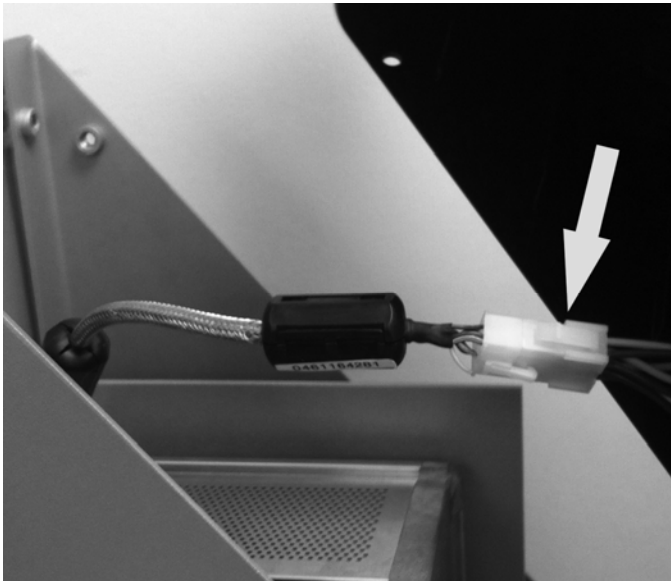
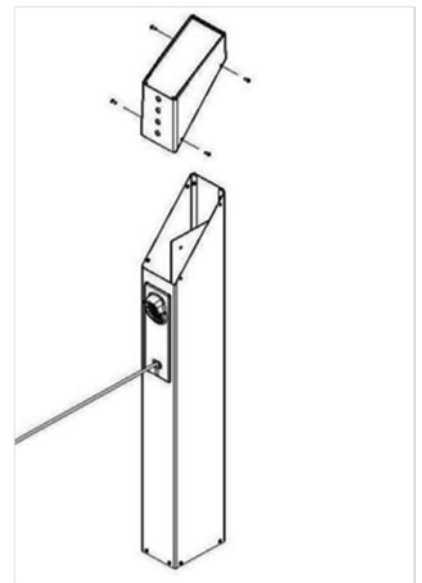

Figure 4 - LED cable harness connector
Figure 3 – Top Cover Removed
4. Remove 4 screws that attach the top cover to the charging base (use security bit provided). Retain screws for later installation. Gently lift the top cover ~6 inches. (See Figure 3) Disconnect LED cable harness connector from charging base harness by pressing release tab and pulling gently apart. (See Figure 4)